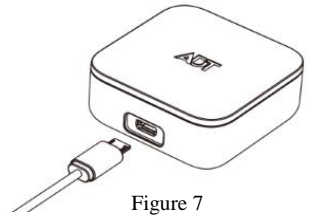

Figure 7
2. Connect the extension water probe into the device terminal. (Figure 7)